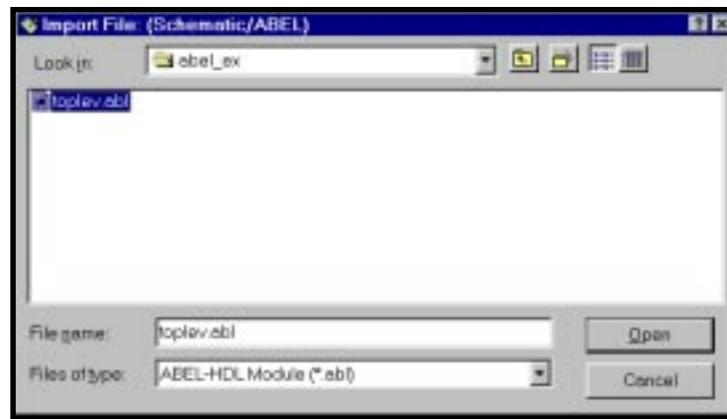

Figure 3-1. Import File Dialog Box
1. Choose **Source** ⇒ **Import** from the menu bar. The Import File dialog box appears (Figure 3-1). The project type Schematic/ABEL is shown in the title bar of the dialog box letting you double check your project type before importing the source files.